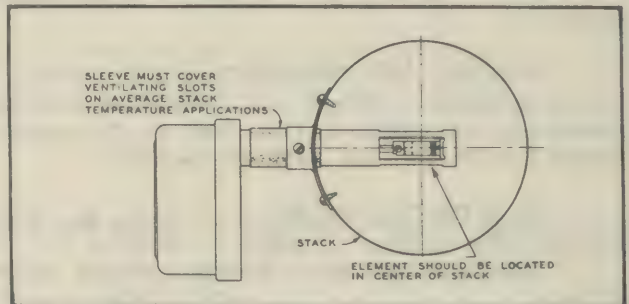

Fig. 2—Sleeve adjustment for average stack temperatures, (ventilating slots completely covered).
Slide the protecting tube into the stack until the bimetal element is in the center. (See Fig. 2). It is important that the element be located in the center of the stack in order that it will be in the direct path of the hot flue gases.
It will be noted that the protecting tube is equipped with a movable sleeve covering the ventilating slots in the tube. If an average stack temperature is expected, be sure the ventilating slots are covered by the sleeve. (See Fig. 2). Then tighten the lock screw in the mounting bracket.
(2) Be sure that the ventilating slots are covered by the sleeve. (See Fig. 2).